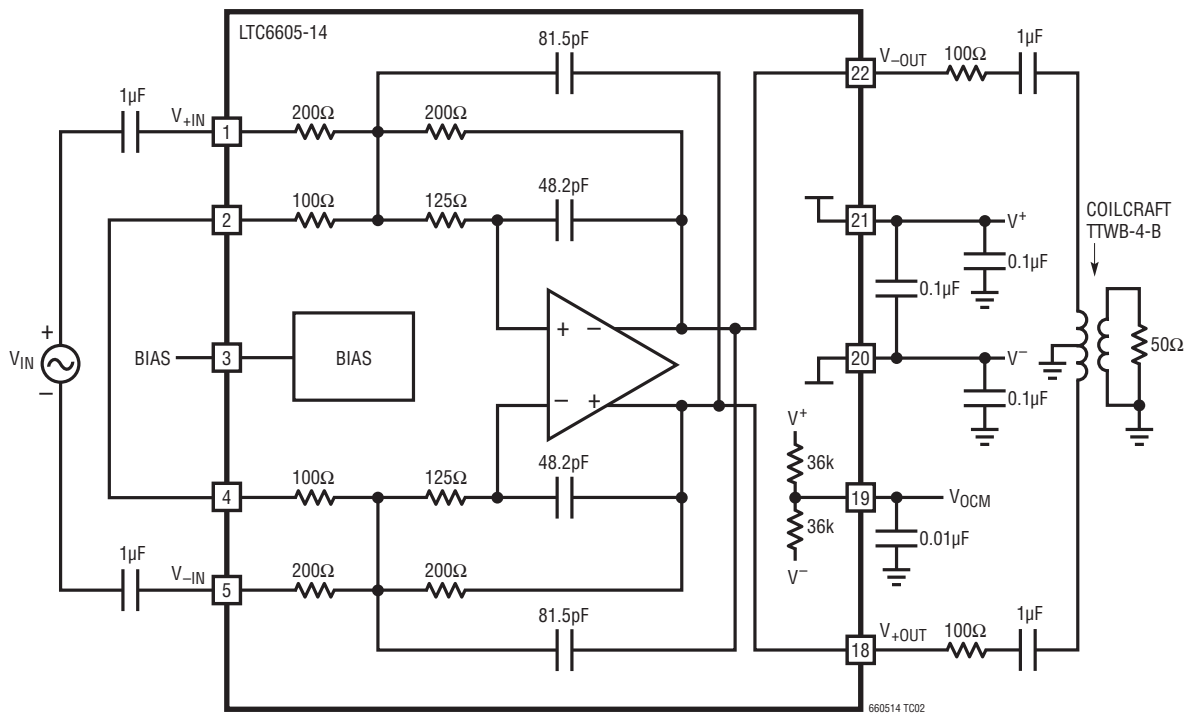

Figure 2. AC Test Circuit (Channel A Shown)
**AC ELECTRICAL CHARACTERISTICS** The ● denotes the specifications which apply over the full operating temperature range, otherwise specifications are at  $T_A = 25^\circ\text{C}$ .  $V^+ = 3\text{V}$ ,  $V^- = 0\text{V}$ ,  $V_{\text{INCM}} = V_{\text{OCM}} = \text{mid-supply}$ ,  $V_{\text{BIAS}} = V^+$ , unless otherwise noted. Filter configured as in Figure 2, unless otherwise noted.  $V_S$  is defined as  $(V^+ - V^-)$ .  $V_{\text{OUTCM}}$  is defined as  $(V_{\text{+OUT}} + V_{\text{-OUT}})/2$ .  $V_{\text{INCM}}$  is defined as  $(V_{\text{+IN}} + V_{\text{-IN}})/2$ .  $V_{\text{OUTDIFF}}$  is defined as  $(V_{\text{+OUT}} - V_{\text{-OUT}})$ .  $V_{\text{INDIFF}}$  is defined as  $(V_{\text{+IN}} + V_{\text{-IN}})$ .